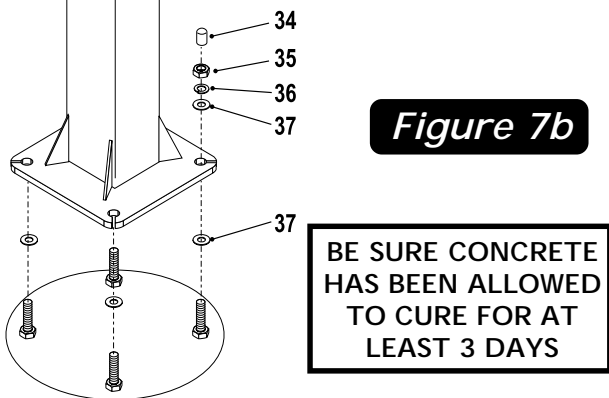

Figure 7b
11. Put a flat washer (#37) on each anchor bolt. Lift post onto anchor system and secure with one flatwasher (#37), one lock washer (#36) and one hex nut (#35) for each anchor bolt. See Figure 7b. Tighten all four hex nuts tight.